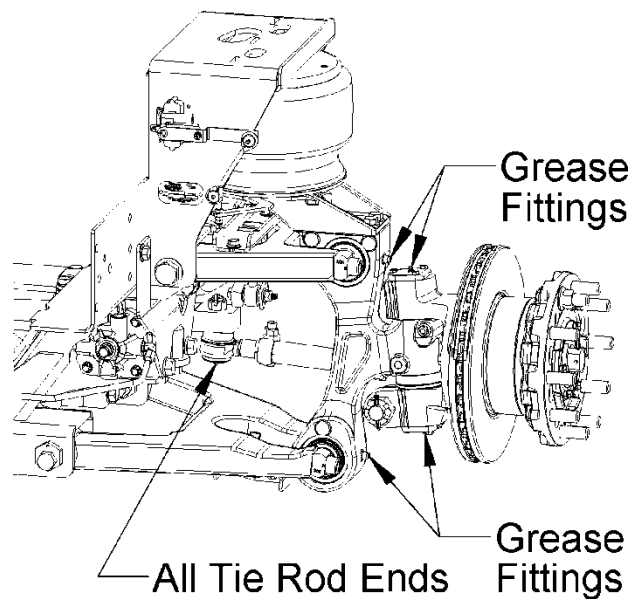

Figure 4 – Location of lubrication fittings. Note: Left side only shown.
2. Apply lubricant to grease fitting until new lubricant discharges from the dust boot (Figure 4).